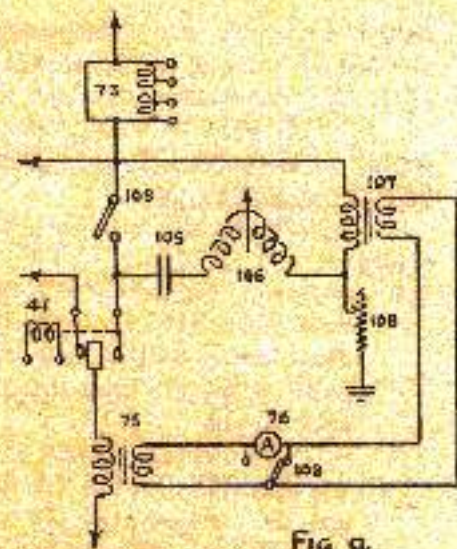

Fig. 6
The arc stabilising circuit (Figure 6) is fitted with Type 1 in subcircuits. It consists of a condenser (105), variable capacitor (106), and an adjustable resistance (109) of 4, 7.5, 10 or 15 ohms connected to earth. The circuit is connected in series with the aerial circuit between the spacing coil (99) and the aerial contact of the magnetic lay (41) when the switch (108) is broken. An arc starter transformer (107) is connected in the circuit, and the current of the arc or arc stabilising circuit is indicated in the ammeter (76) depending on the position of the switch (109). The circuit is used in subcircuits when spray continuously washing over the aerial insulator would put the arc out. (See Admiralty Handbook of W/T (1961) para 106).